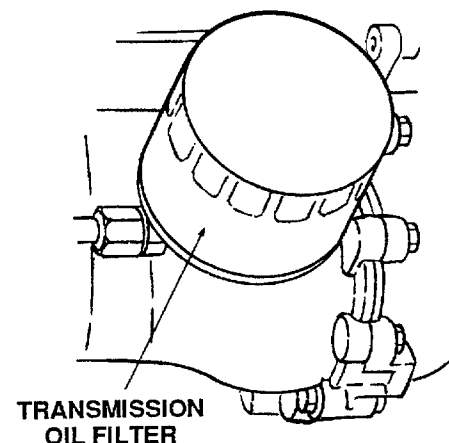

Figure 24
3. Clean around the base of the transmission oil filter and remove the filter by turning it counterclockwise (Refer to Figure 24).